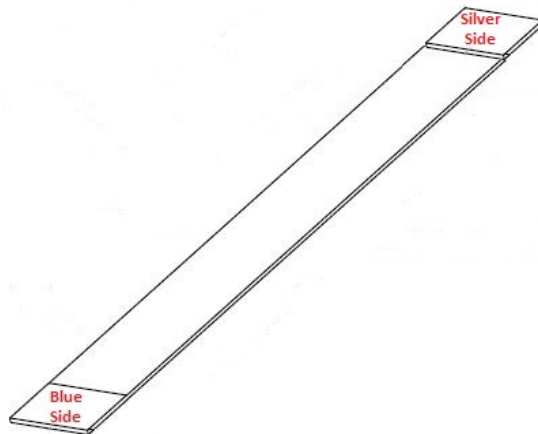

Figure 15. Marking the Ribbon Cable
1. Unfold the ribbon cable to make it flat as shown in Figure 15.